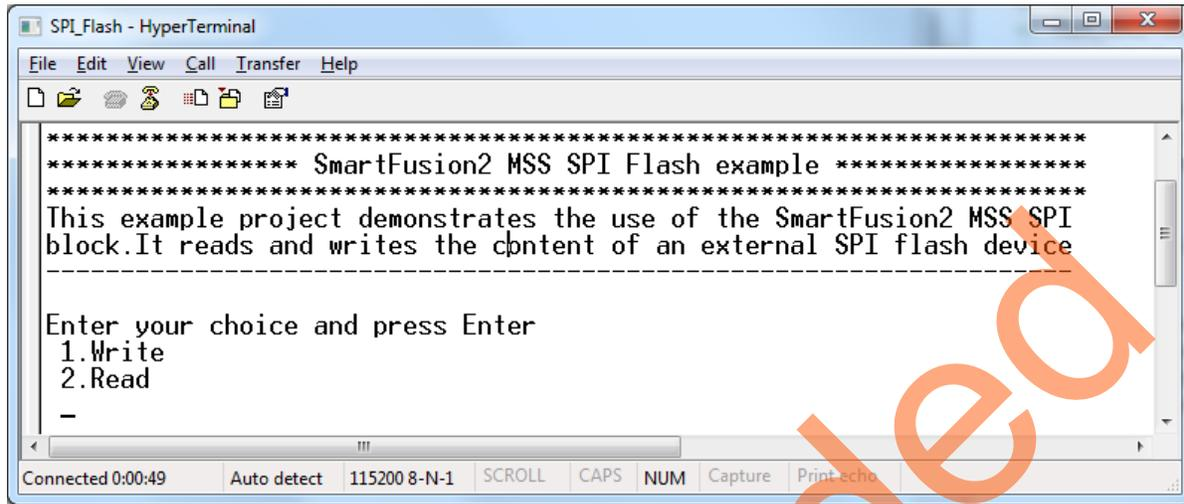

Figure 43 • HyperTerminal Window
4. On successful operation, the HyperTerminal window displays a message, as shown in Figure 43.